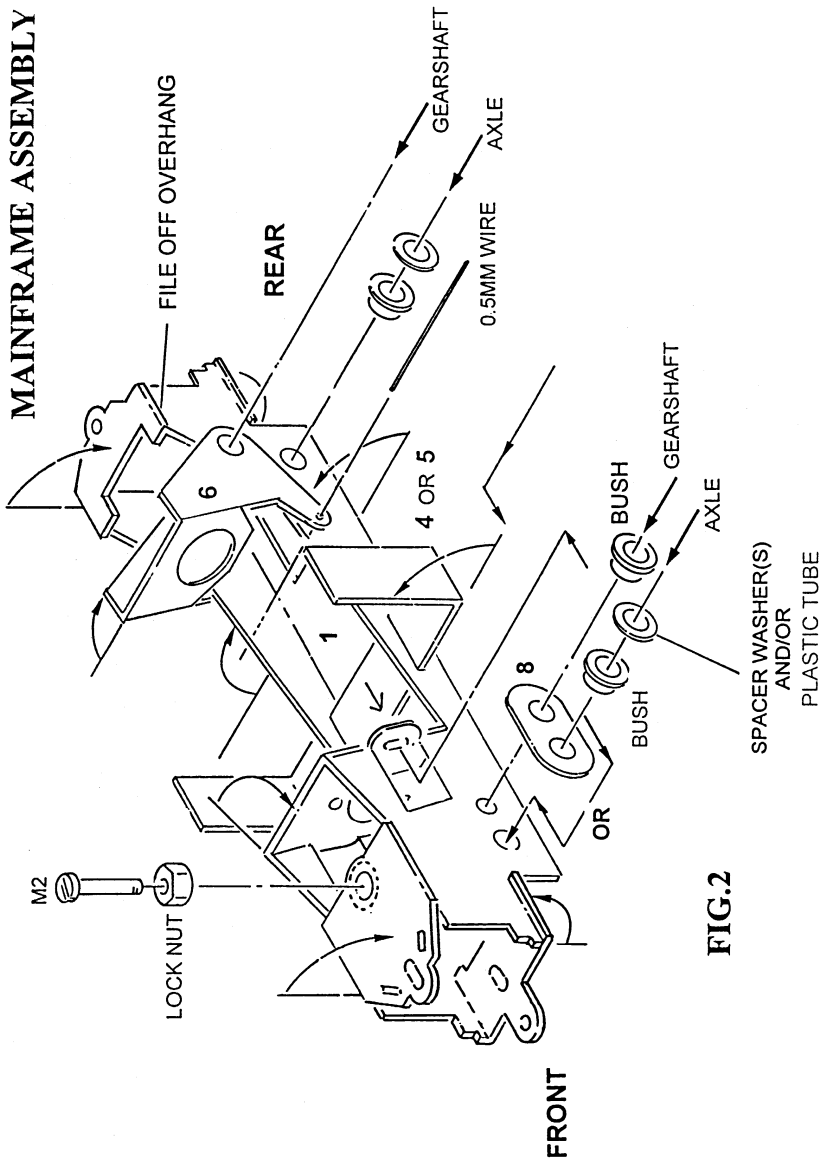

FIG. 2
Now fold the mainframe into a box shape as shown in Figure 2 (all fold lines are on the inside). If Lima rubbing plates are fitted, bend the top spacers down first. The gear shafts should be a comfortable fit across the bogie. Solder the mainframe along the joints, using a piece of wood to push the folding spacers and the front motor mount hard up against their locators. File off the overhang where the rear top folding spacer meets the side of the mainframe.
If you've decided to build a **rigid bogie**, push the four brass bushes into their axle locations as in Figure 2 (flanges to the outside). Put an axle between them to confirm the alignment - it should be free to revolve smoothly - and then solder the bushes to the mainframe. For a **compensated bogie**, solder two bushes into the rear axle holes in the mainframe. Loosely fit the remaining two bushes into the front axle holes, push an axle temporarily in place and then screw the M2 bolt, with its lock-nut, through the nut until it just touches the axle. Tighten up the lock-nut to secure the bolt in place, and then remove the axle and bushes.
Push the boss on the rear of the **motor** into the large hole (Z) in the rear mounting plate, so the label is facing upwards. Then place the motor in position on the bogie, clipping the mount over the rear gearshaft for location. Use the screws supplied with the motor to secure the front face to the front mounting plate on the mainframe. Check the **gear meshing** under power and if necessary loosen the screws and move the motor up or down slightly until satisfied - the best mesh will be when the running is quietest. Remove the rear wheels and squeeze the rear motor mount between finger and thumb. Using a 0.5mm drill bit, spot through the holes in the side brackets and through the bogie mainframe, as shown in Figure 2. Slot a length of wire through these holes - it will hold itself in place by tension but can readily be pulled out if you need to take the motor off. Bend down the ends of the wire and refit the wheels.